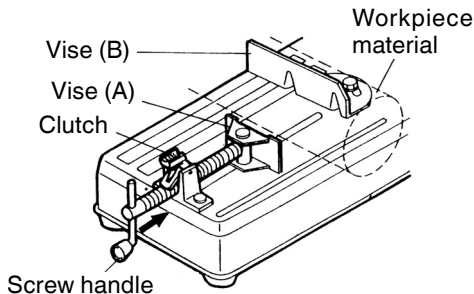

Fig. 4
1. Procedure for fixing the cutting material (Fig. 4 and 5).
Place the workpiece material between Vise (A) and Vise (B), raise the clutch and push the Screw Handle to bring Vise (A) lightly into contact with the workpiece material, as shown in Fig. 4. Then, turn the clutch down, and securely fix the workpiece material in position by turning the Screw Handle. When the cutting job is completed, turn the Screw Handle 2 or 3 times to loosen the vise, and remove the workpiece material, as shown in Fig. 5.